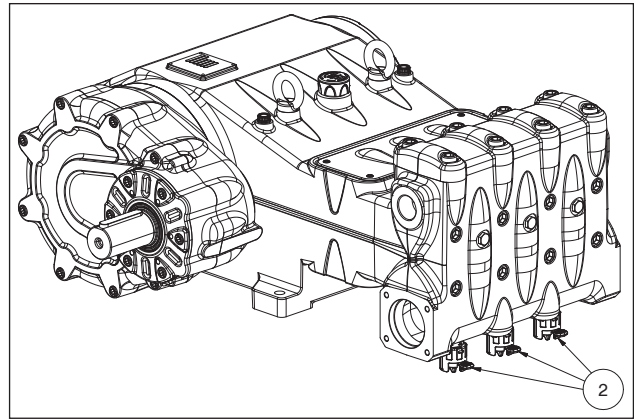

Fig. 9
**In case of prolonged storage or long-term inactivity, you need to restore the proper functioning of the suction valves by opening the three valve-lift devices (see pos. ② Fig. 9). Make sure you have closed the valves before starting the pump.**